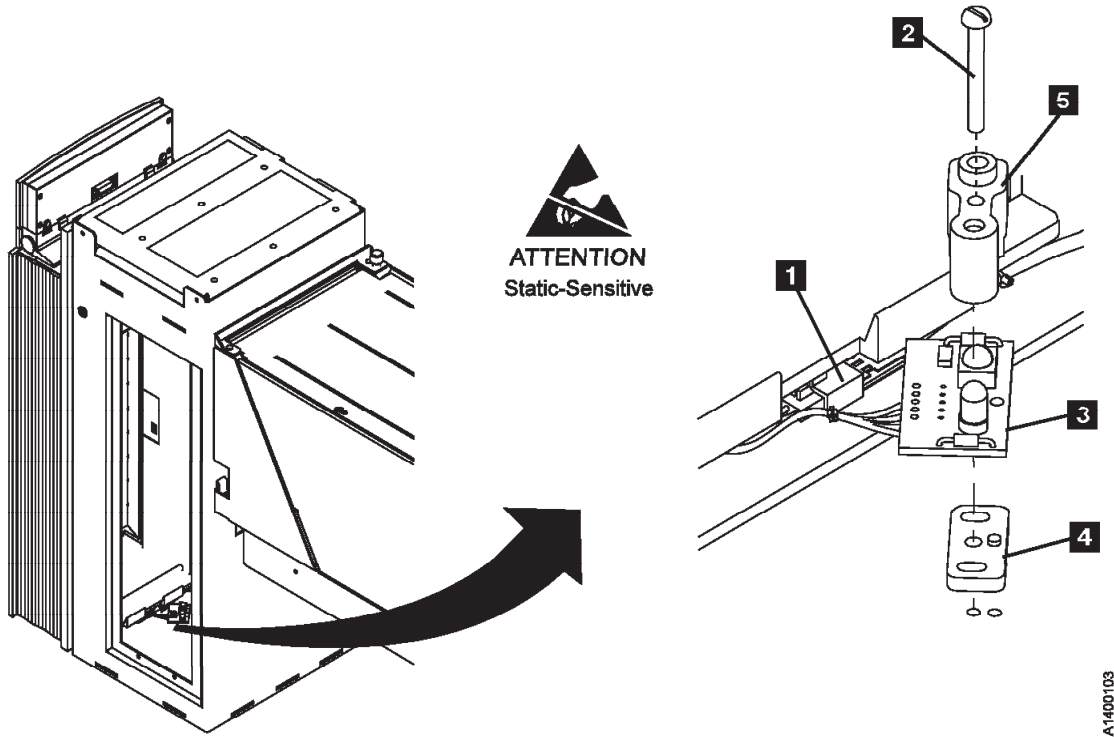

Figure 10-25. Global-Interference Sensor Assembly (Lower)
3. See Figure 10-25 on page 10-39. Remove the sensor mounting screw **2**, the sensor cover **5**, and the spacer **4**. Notice the spacer **4** has locating pins for the sensor board **3** and the base. Also note the orientation of the sensor cover **5** relative to the sensor board **3**.
- b. Reseat the sensor cover **5** over the sensors on top of the sensor board **3**, as shown in Figure 10-25.